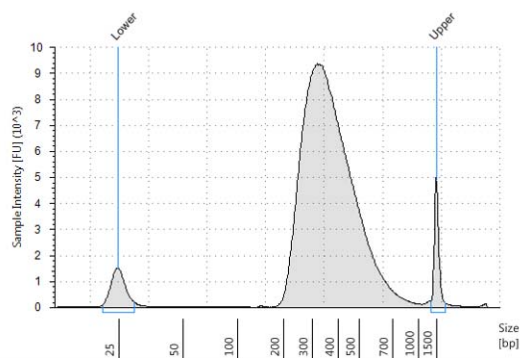
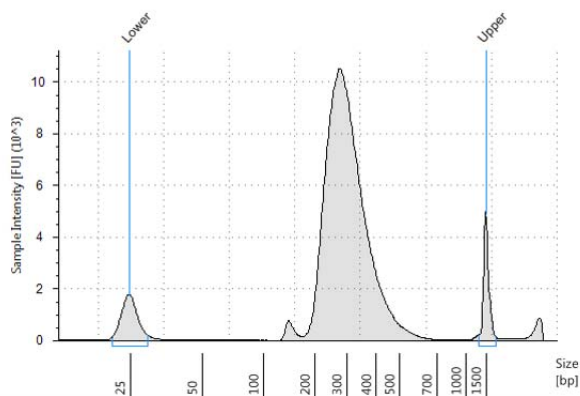
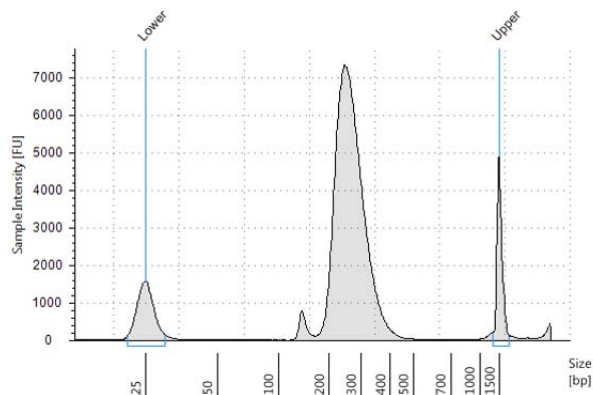

Figure 5 Pre-capture library prepared from a high-quality gDNA sample analyzed using a D1000 ScreenTape assay.
Figure 6 Pre-capture library prepared from a typical FFPE gDNA sample analyzed using a D1000 ScreenTape assay.
Figure 7 Pre-capture library prepared from a low-quality FFPE gDNA sample analyzed using a D1000 ScreenTape assay.
- 3 Verify that the electropherogram shows the peak of DNA fragment size positioned between 300 to 400 bp for high-quality DNA and approximately 200 to 400 bp for FFPE DNA. Sample electropherograms are shown in Figure 5 (library prepared from high-quality DNA), Figure 6 (library prepared from medium-quality FFPE DNA), and Figure 7 (library prepared from low-quality FFPE DNA).